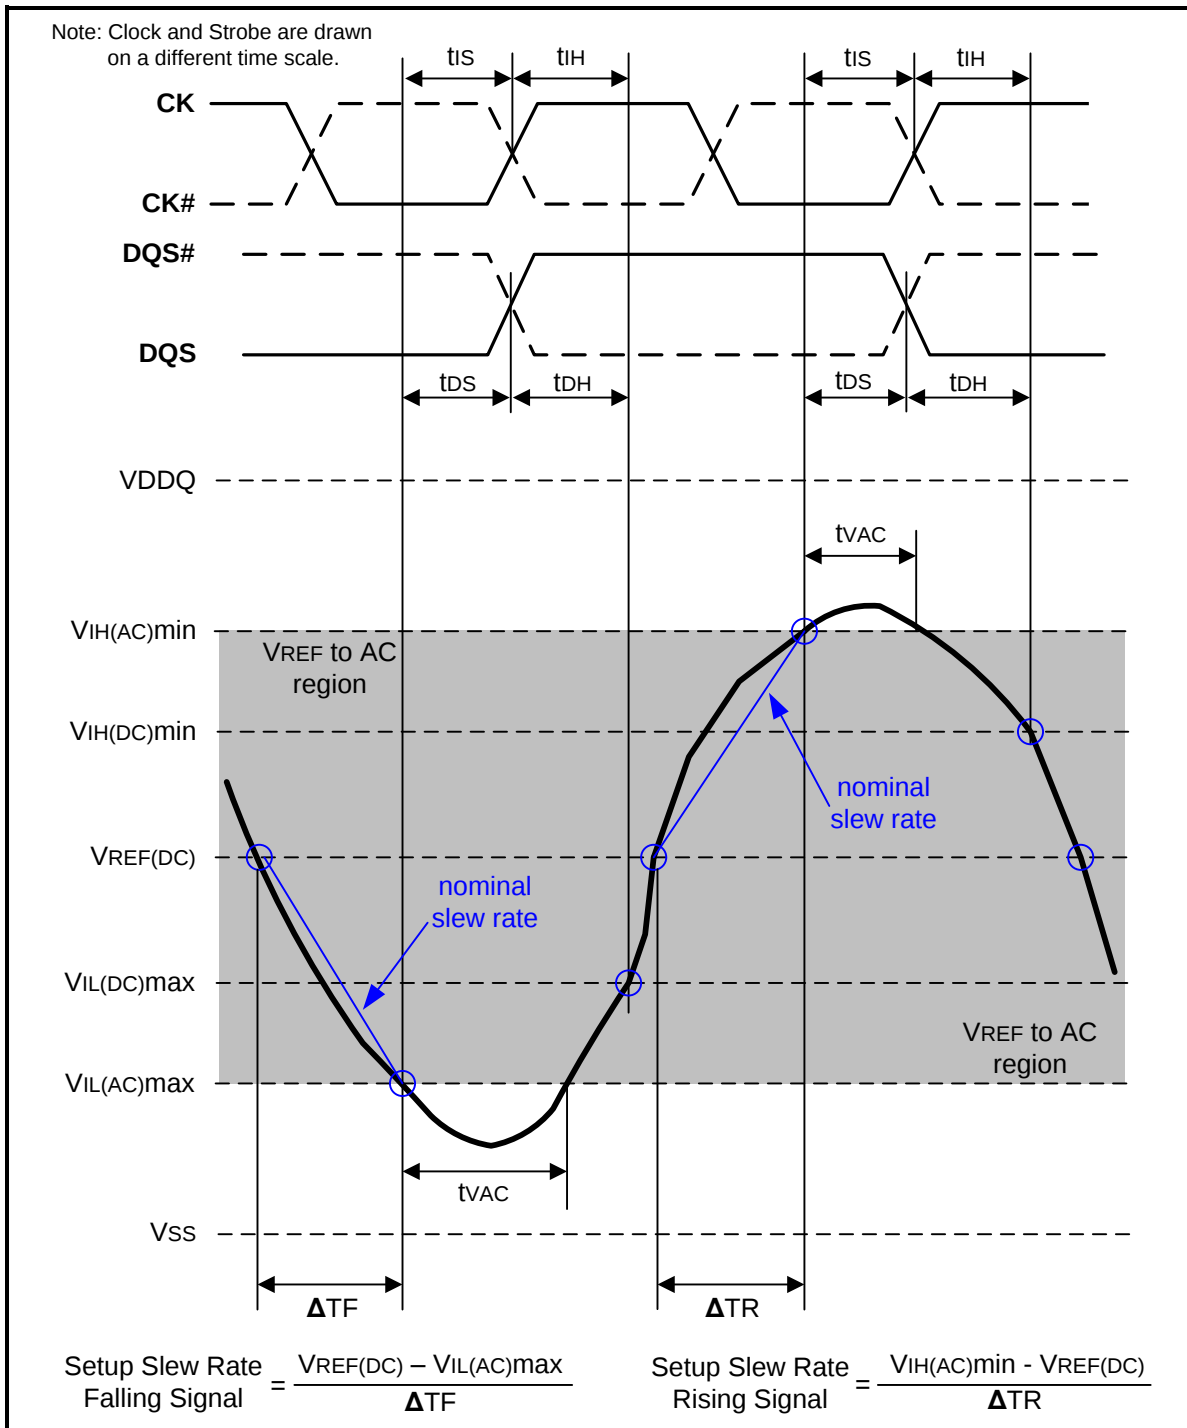
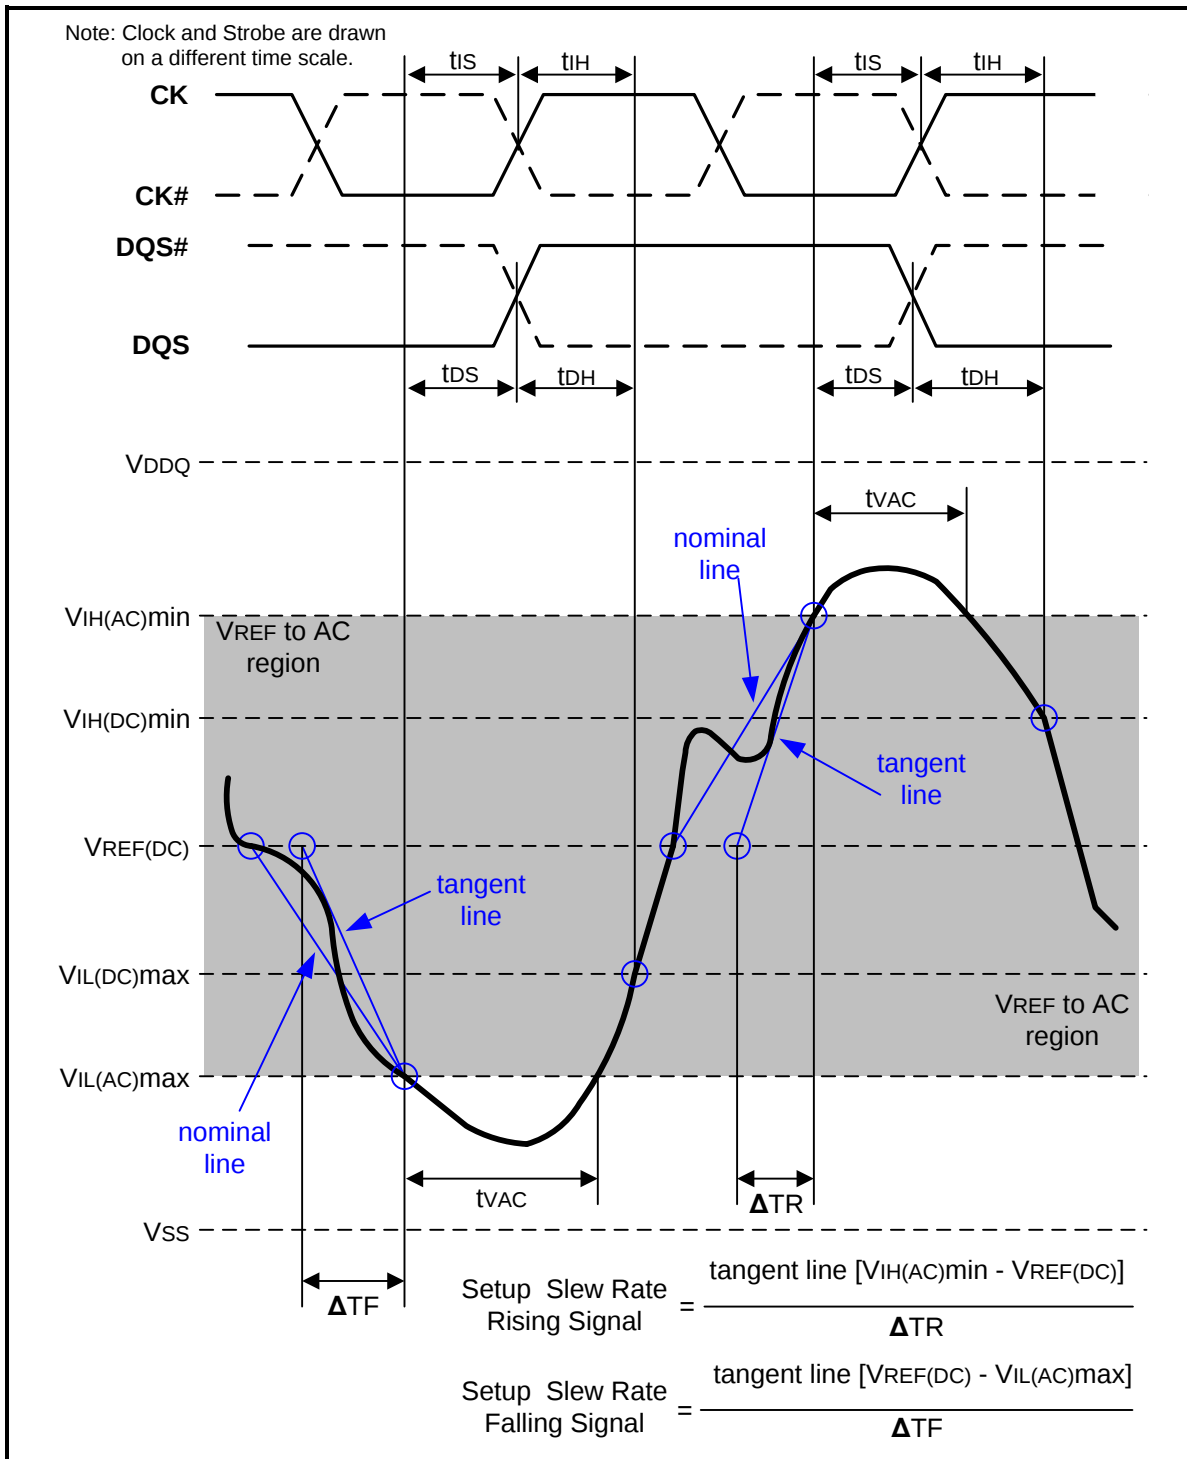

Figure 107 – Illustration of nominal slew rate and t_{vac} for setup time t_{ds} (for DQ with respect to strobe) and t_{is} (for ADD/CMD with respect to clock)
Figure 109 – Illustration of tangent line for setup time t_{DS} (for DQ with respect to strobe) and t_{IS} (for ADD/CMD with respect to clock)
Setup (t_{IS}) nominal slew rate for a rising signal is defined as the slew rate between the last crossing of $V_{REF}(\text{DC})$ and the first crossing of $V_{IH}(\text{AC})_{\text{min}}$. Setup (t_{IS}) nominal slew rate for a falling signal is defined as the slew rate between the last crossing of $V_{REF}(\text{DC})$ and the first crossing of $V_{IL}(\text{AC})_{\text{max}}$. If the actual signal is always earlier than the nominal slew rate line between shaded 'VREF(DC) to AC region', use nominal slew rate for derating value (see Figure 107). If the actual signal is later than the nominal slew rate line anywhere between shaded 'VREF(DC) to AC region', the slew rate of a tangent line to the actual signal from the AC level to DC level is used for derating value (see Figure 109).
Setup (tDS) nominal slew rate for a rising signal is defined as the slew rate between the last crossing of VREF(DC) and the first crossing of VIH(AC)min. Setup (tDS) nominal slew rate for a falling signal is defined as the slew rate between the last crossing of VREF(DC) and the first crossing of VIL(AC)max (see Figure 107). If the actual signal is always earlier than the nominal slew rate line between shaded 'VREF(DC) to AC region', use nominal slew rate for derating value. If the actual signal is later than the nominal slew rate line anywhere between shaded 'VREF(DC) to AC region', the slew rate of a tangent line to the actual signal from the AC level to DC level is used for derating value (see Figure 109).